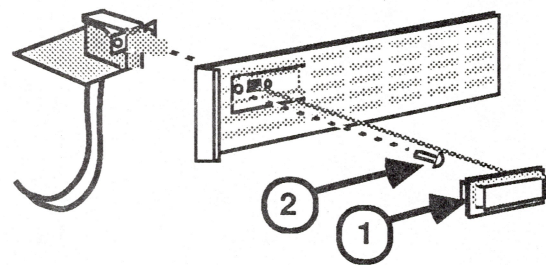

FIGURE 13
- a. Pull the switch button\* (Figure 13, #1) off its shaft.
- b. Remove the screw\* (Figure 13, #2) which secures the on/off switch to the plastic bracket.\*